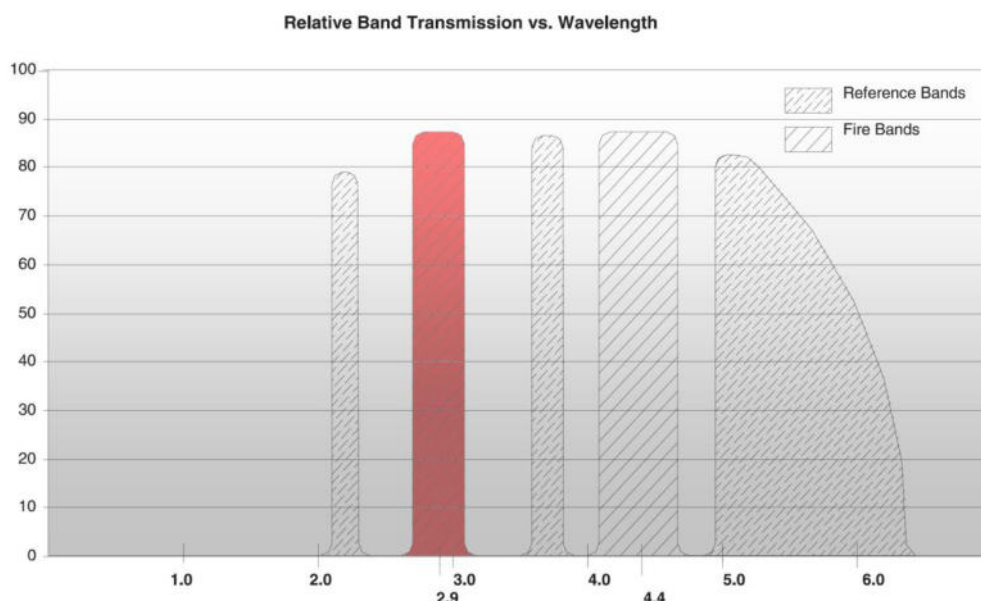

Figure 3 Hydrocarbon Fire Spectrum. Marked Fire band excluded in FD-4IR, included in FD-5IR. (Wavelengths in micrometres).
Sensors located behind two separate windows sample 4 for FD-4IR, and 5 for FD-5IR, separate wavelength regions within the infrared (IR) portion of the electromagnetic spectrum, *Figure 3*. These sensors are continuously interrogated to ensure the proper operation of the fire detector.